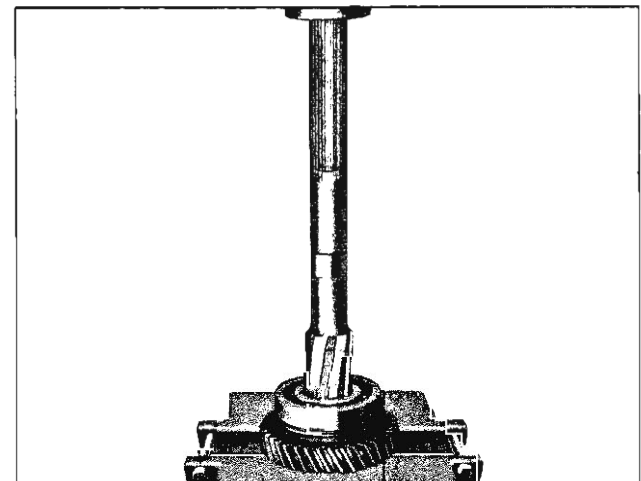

Fig. 14M—Removing Mainshaft from Rear Bearing and First Speed Gear
17. Remove the mainshaft rear snap ring. Support first speed gear as shown in Figure 14M and press against rear of mainshaft to remove shaft from rear bearing, first speed gear thrust washer, first speed gear and synchronizing ring.